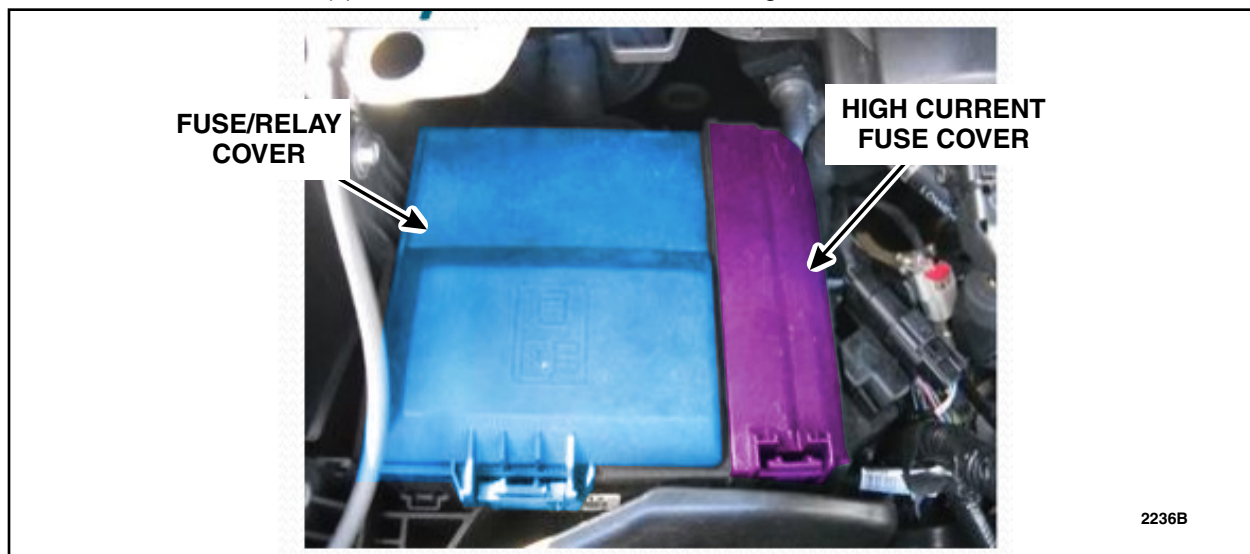

FIGURE 2
2. Are both the fuse/relay cover and the High Current fuse cover present. See Figure 2.